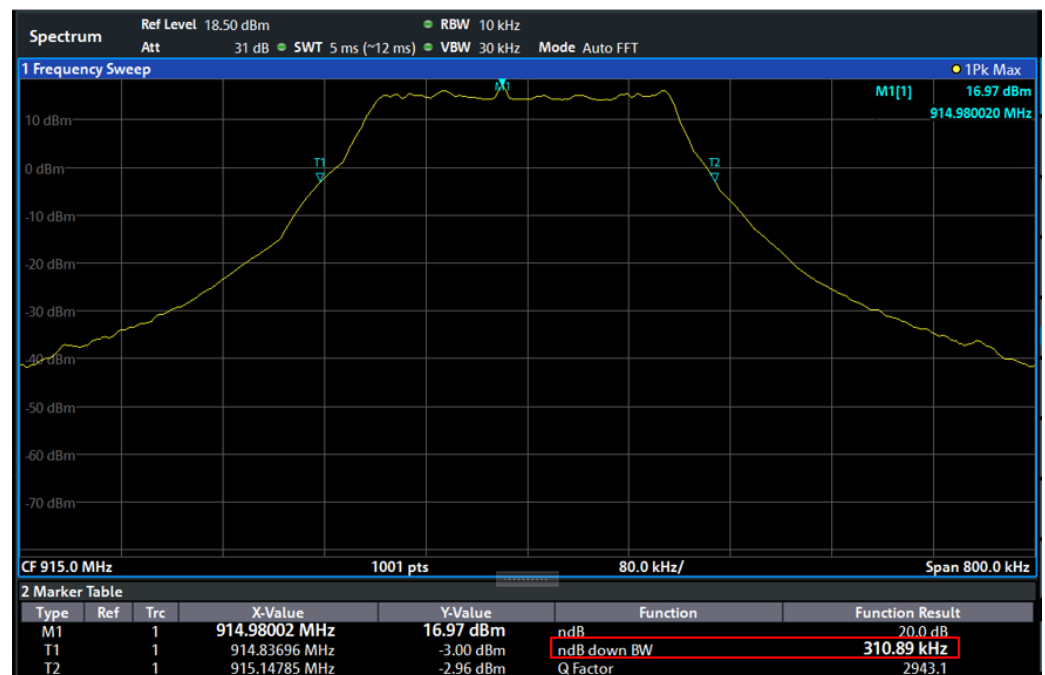

Figure 2-18: Measurement of 20 dB bandwidth, LoRa signal bandwidth 250 kHz, SF = 7
- 34. As described above under points 1 to 10. Figure 2-18 shows the result of the measurement for a LoRa signal with 250 kHz bandwidth.